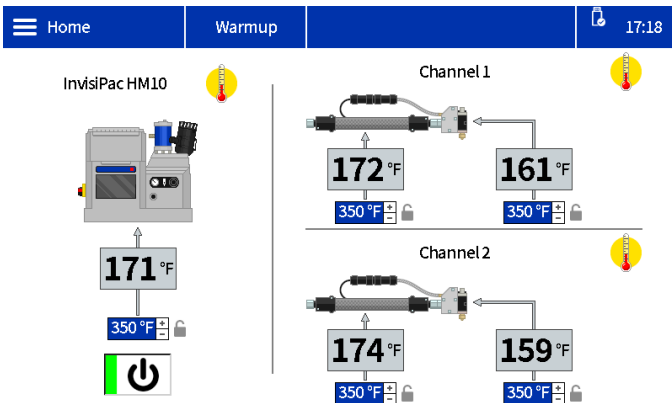

FIG. 19: System Warming Home Screen
7. Press the power button  on the ADM Home Screen to begin system warm-up. See FIG. 19.